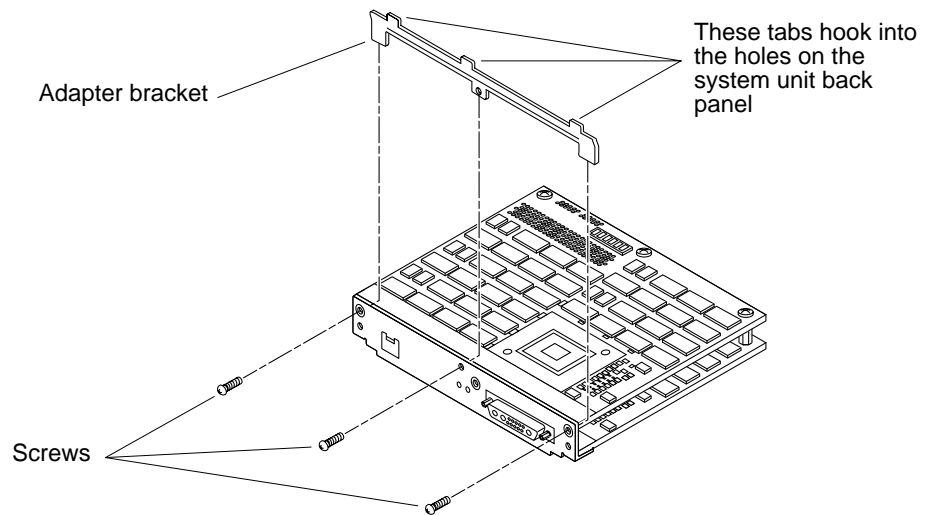

Figure 3-7 Installing the Adapter Bracket
- 3. Install the adapter bracket with the three screws, as shown in Figure 3-7.** Use a #1 Phillips screwdriver to install the adapter bracket screws.